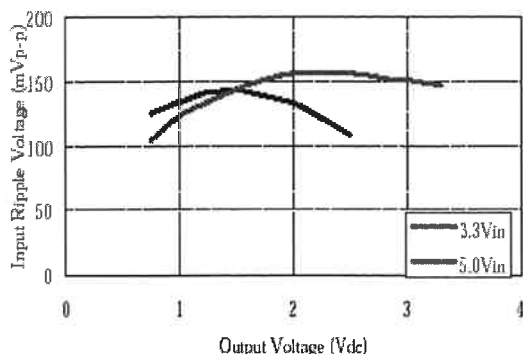

Figure 6 Input voltage ripple VS Output voltage
1. 2 $\times$ 100 μ F tantalum // 47 μ F ceramic ----- Figure 6